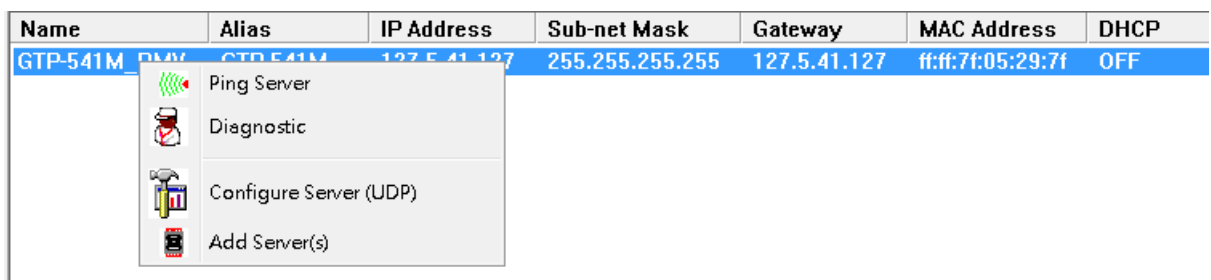
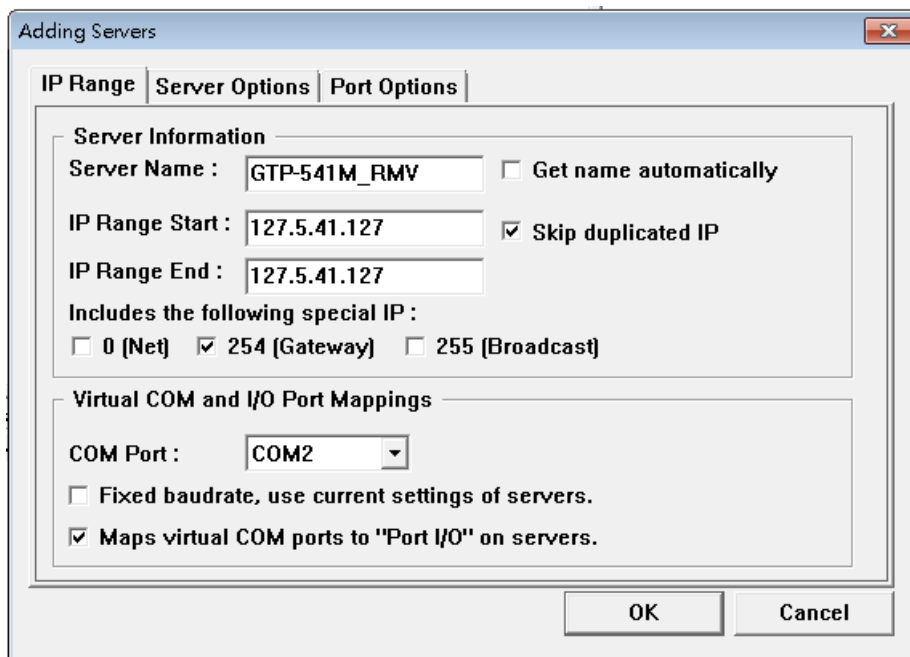

Figure 7.10.14
Figure 7.10.15
G.Right click on GTP-541M and select “Add Server” as shown in Figure 7.10.14. After clicking, the Adding Servers window will appear as shown in Figure 7.10.15. In this window, select “COM Port” in the Virtual COM and I/O Port Mappings block. And "check below" Maps virtual COM ports to "Port I/O" on servers.